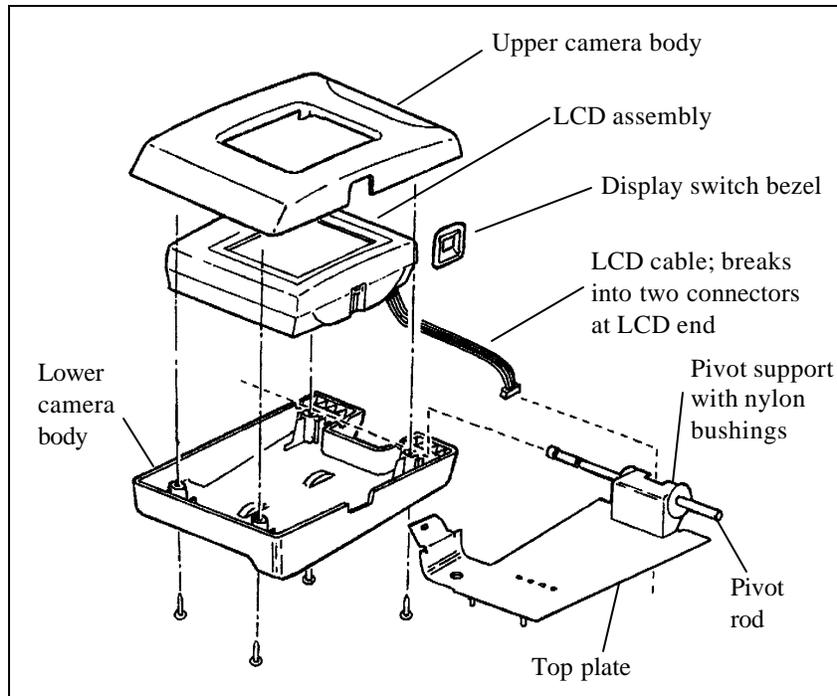

Figure 4- 14 Removing the LCD assembly
2. As seen in Figure 4- 14, remove four torx screws which secure the lower camera body to the upper camera body. The LCD assembly pivot rod bushings are trapped between the two camera bodies. Use care to prevent their falling free and being lost when the torx screws securing the upper and lower camera bodies are removed.